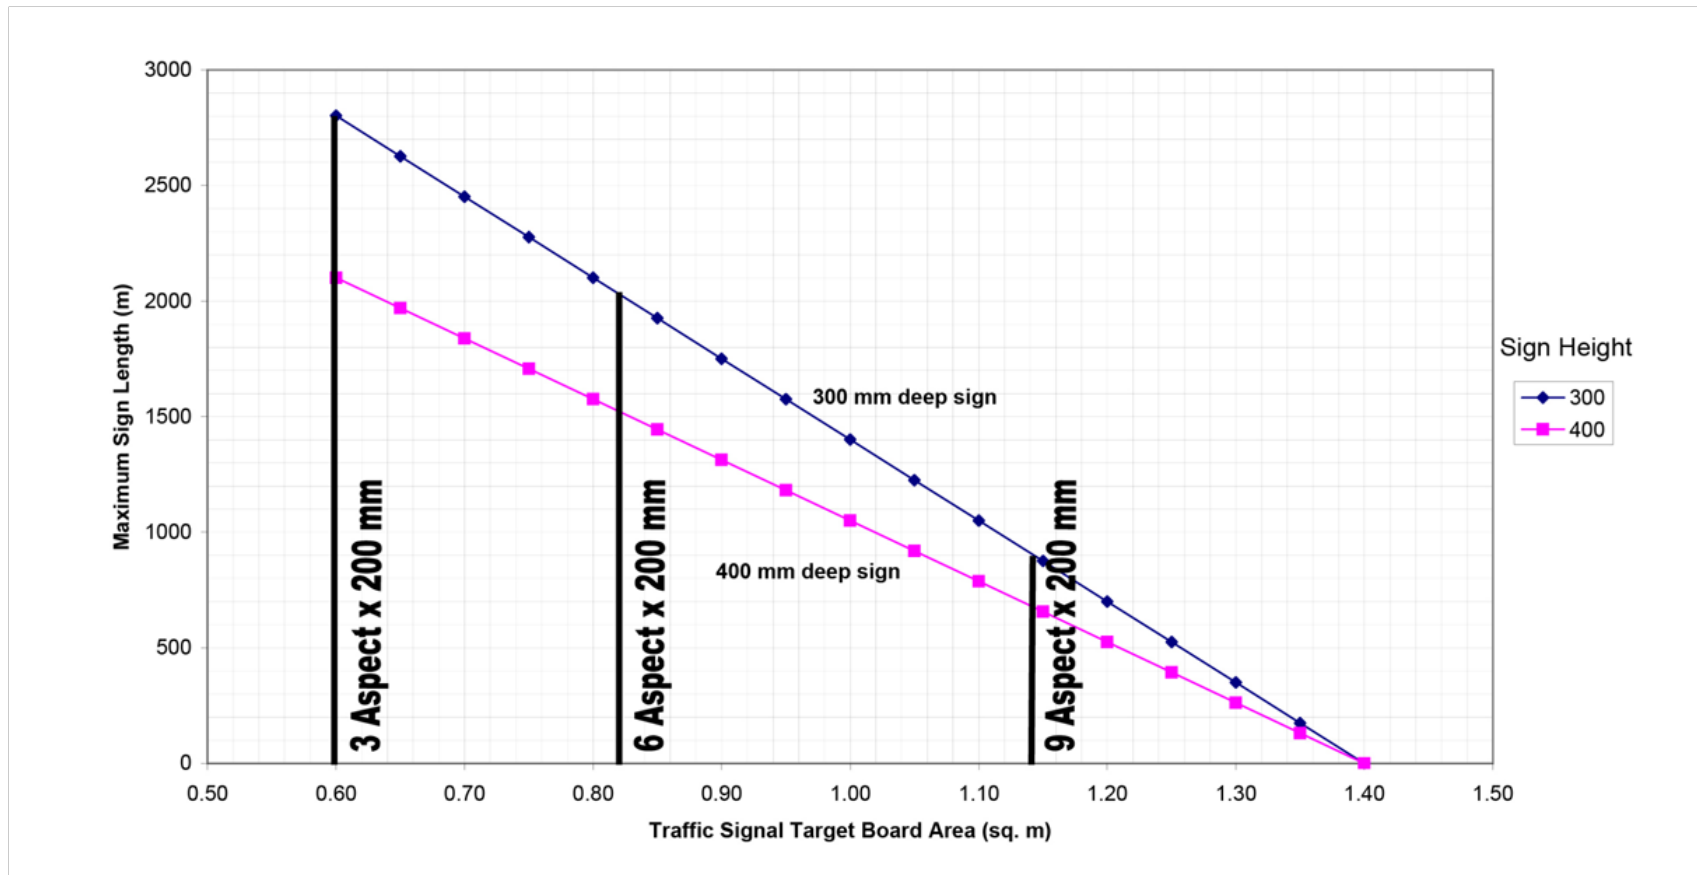

Figure 4: Sign length for G2-V3 series street name signs installed on mast arms
- The maximum size of the sign is based on mast arm structural requirements and determined from Figure 4. The installation of Street Name signs may therefore not be possible if the road name is excessively long.
Figure 4 is used to determine the maximum length of street name signs to be erected on mast arms, based on permissible wind loading of the mast arm. The depth of the sign shall be either 300 mm for G2-V3-101 and G2-V3-102 signs, or 400 mm for the G2-V3-103 sign. The length of the sign may vary but shall have a maximum length determined from Figure 4.
The most legible legend series shall be used, taking into account the maximum length of sign determined from Figure 4. E series is preferred otherwise D series is used and legend narrower than D series should be avoided.
Notes to Figure 4